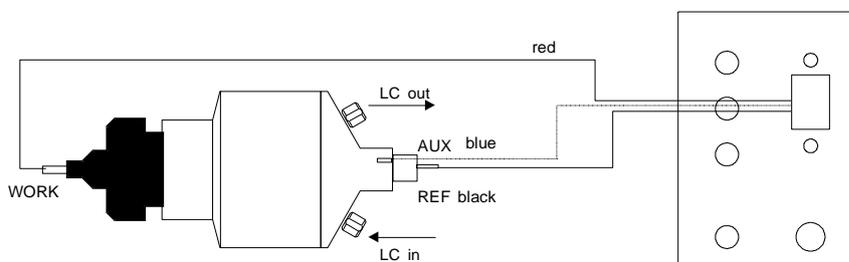

Fig. 5. ReactorCell and cell cable (for ROXY potentiostat™). WORK, AUX and REF are connected using the red, blue and black lead of the cell cable, respectively.
9. Connect the cell cable to the ReactorCell as illustrated in the Fig. 5. The red connector should be connected to the Working electrode, the black
8. Place the cell with the outlet on top to prevent entrapment of bubbles. Connect the cell cable as illustrated in Fig. 5.